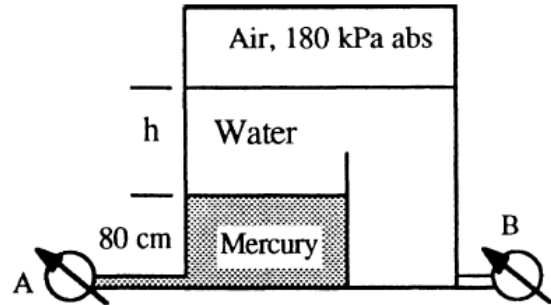

Fig. P2.21
2.21 In Fig. P2.21 all fluids are at 20°C. Gage A reads 350 kPa absolute. Determine (a) the height h in cm; and (b) the reading of gage B in kPa absolute.